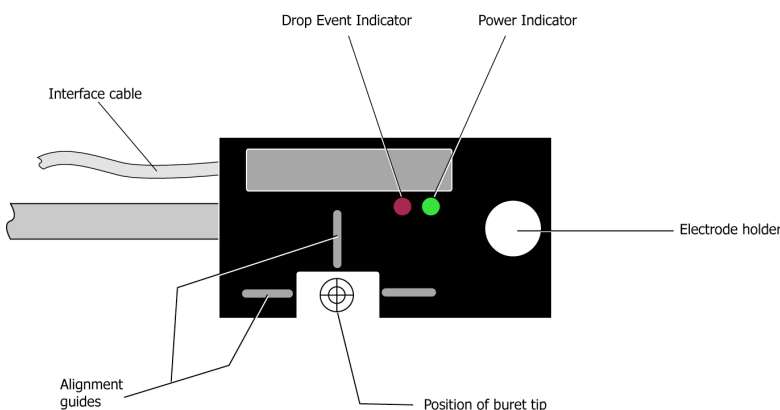

Figure 3. Align the buret tip using the guides on the top of the drop counter.
8. Adjust the position of the buret tip so that it is aligned with the alignment marks on the Drop Counter (Figure 3). The buret tip should be positioned 3-5mm above the opening in the drop counter.